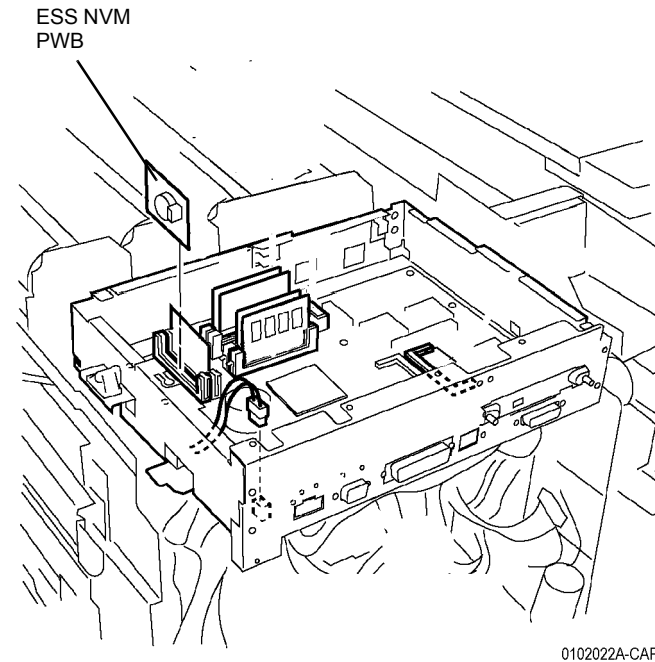

Figure 1 Removing the ESS NVM PWB
6. Remove the ESS NVM PWB (Figure 1).